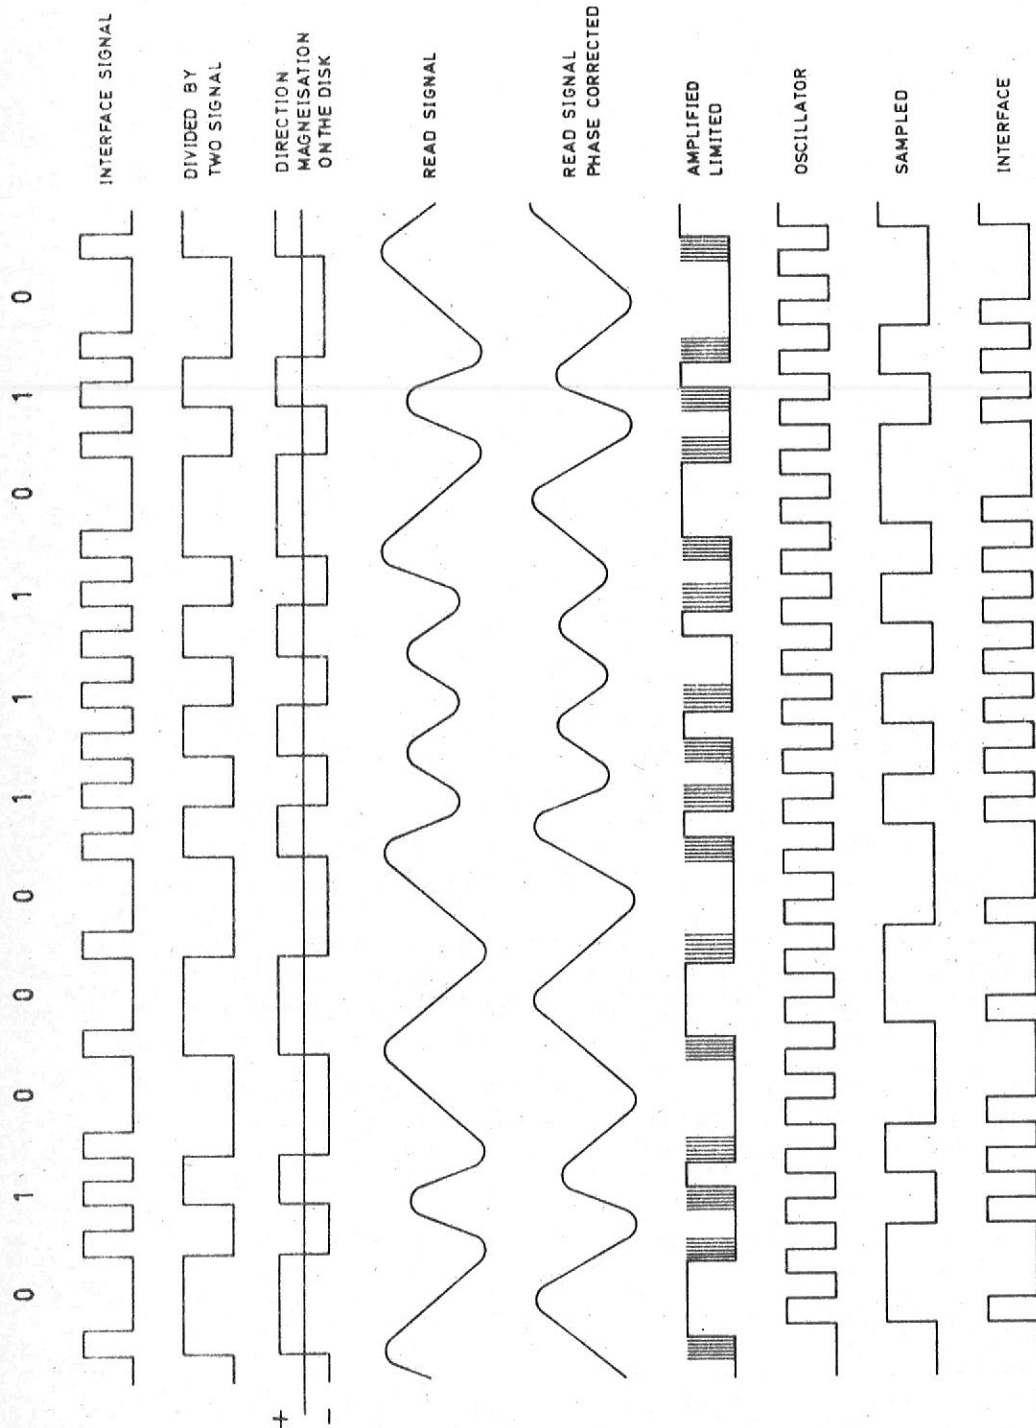
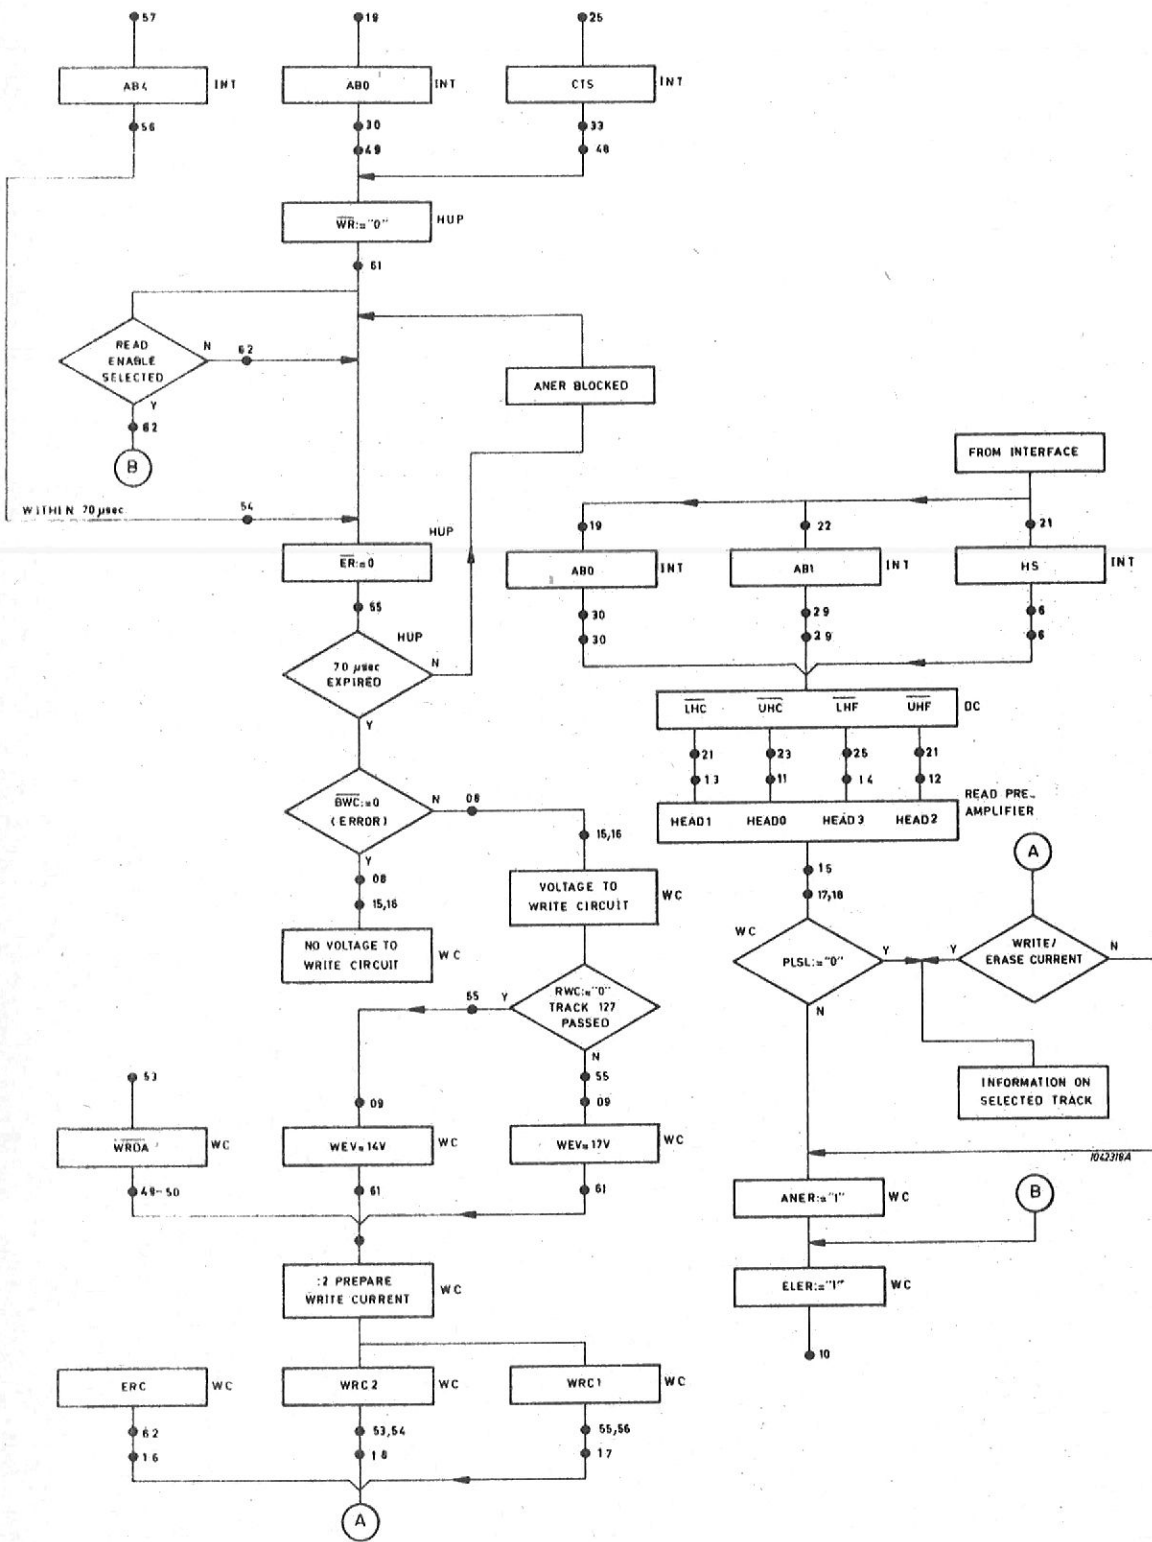

Figure 3-18 WRITING/READING/RECOVERING
Figure 3-27 WRITE HEAD SELECTION
When the signal WR is active, information can be written on the disk. This information, on the interface line, consists of clock pulses and data pulses, which, in the disk drive unit, are "divided by two". The "divided by two" signal is written on the disk: One logic state of the signal corresponds with the current through one half of the head coil, the other logic state corresponds with the current through the other half of the head coil. See also figure 3-18. Fig. 3-27 shows a flow diagram of head selection and write operation.
7.10 WRITING (Figure 3-27)
Before writing can be initiated, one of the heads must be selected (signals HS, ABO and AB1, see figure 3-27). The interface lines CTS (Control Select), ABO (Write Enable) and AB4 (Erase Enable) are preparation signals for signals WR (Write Enable) and ER (Erase Enable). From the Control Unit the selection signals are received (erase enable signal must come within 70 μ s after the write enable signal). During this time of 70 μ s, signal ANER (Analogue Error) is blocked so that the unit does not react. The time lapse is necessary because of the time relationship between the write and erase gaps at full disk speed (erase head situated 'behind' the read/write head). If the read enable signal is present during the writing an electronic error is raised (signal ELER). If no fault is detected, signals UNS (Unit Unsafe) and RER (Recoverable Error) are not active, and signal BWC (Block Write Current) is not produced so that a voltage is supplied to the write circuit. The current through the read/write head is controlled because when the bit density of the track becomes greater, from cylinder 127 onwards to cylinder 203, the write current must reduce. This is done by the signal RWC (Reduce Write Current) reducing the supply voltage from 17 Volts to 14 Volts. Operation of the write circuit is now possible and the data to be written on the track (serial information) is received. A 'divide by two' circuit produces edges from the bit cell pulses so that magnetisation changes are written on the track. Two checks are incorporated. The first check determines the co-existence of the write and erase current (the erase and the write currents are 55 mA and 85 mA respectively from cylinder 000 to cylinder 128, and 45 mA and 67 mA respectively from cylinder 128 to the final cylinder). The other checks the selection of more than one head. If more than one head is selected, the signal PLSL (Plural Selection) is set, activating signal ANER (Analogue Error). If the checks are found to be correct (signal ANER is not raised so that signal ELER stays logical '0'), the information is written to the track.